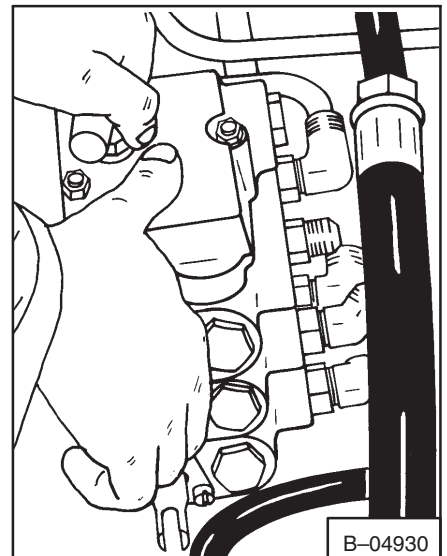

Fig. 2-9 Removing Control Valve
10. Remove the control valve from the loader (Fig. 2-9).